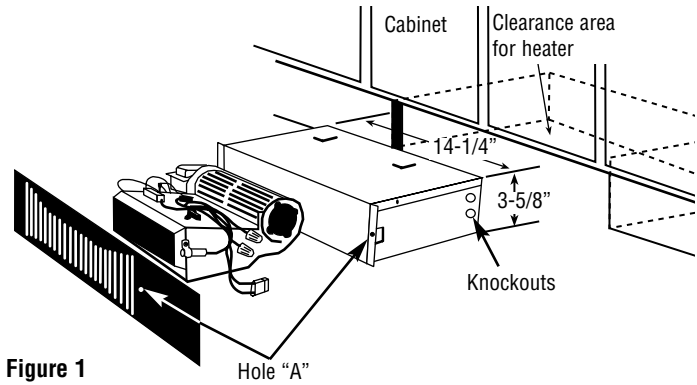

Figure 1
3. Power supply must enter back box through the knockouts in the LEFT side of box. Do not use the knockouts in the right side of the box (see Figure 1). See also TOP marking on the back box for proper orientation.
1. Cut a 14 1/4" x 3 5/8" (361.9 x 92.1 mm) opening at desired location as shown in Fig. 1. Keep clearance area free of obstructions.
3. Determine which knockout in enclosure will be used for field wiring and remove (see figure 1). Install strain relief (field supplied).